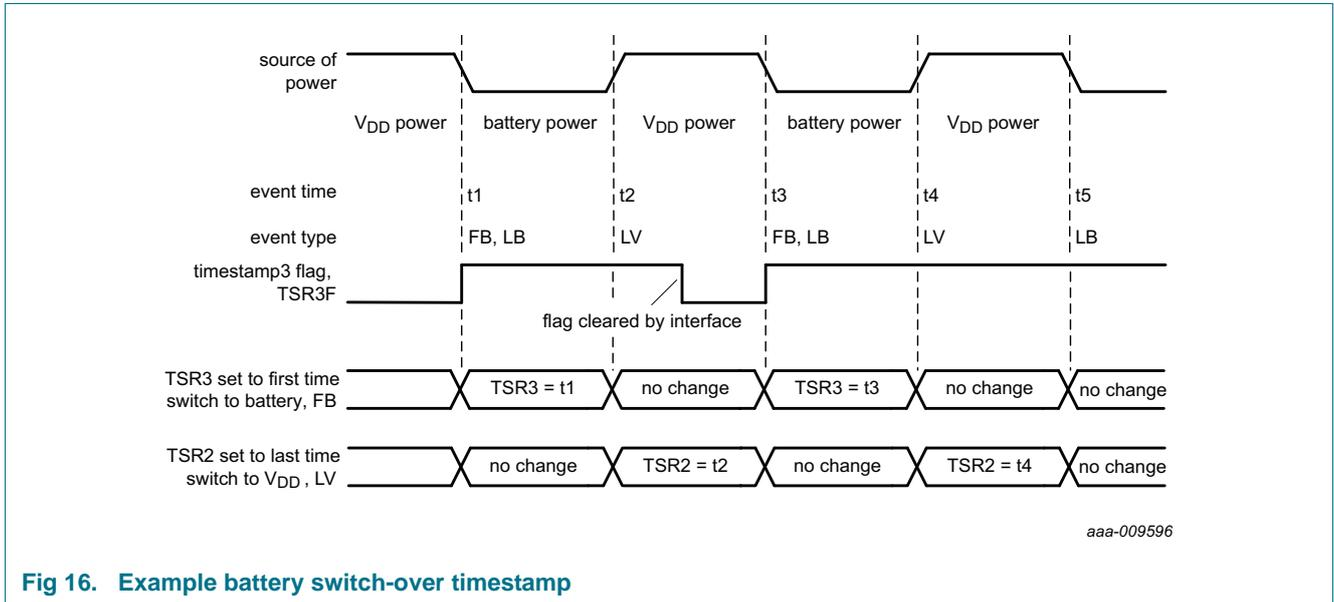
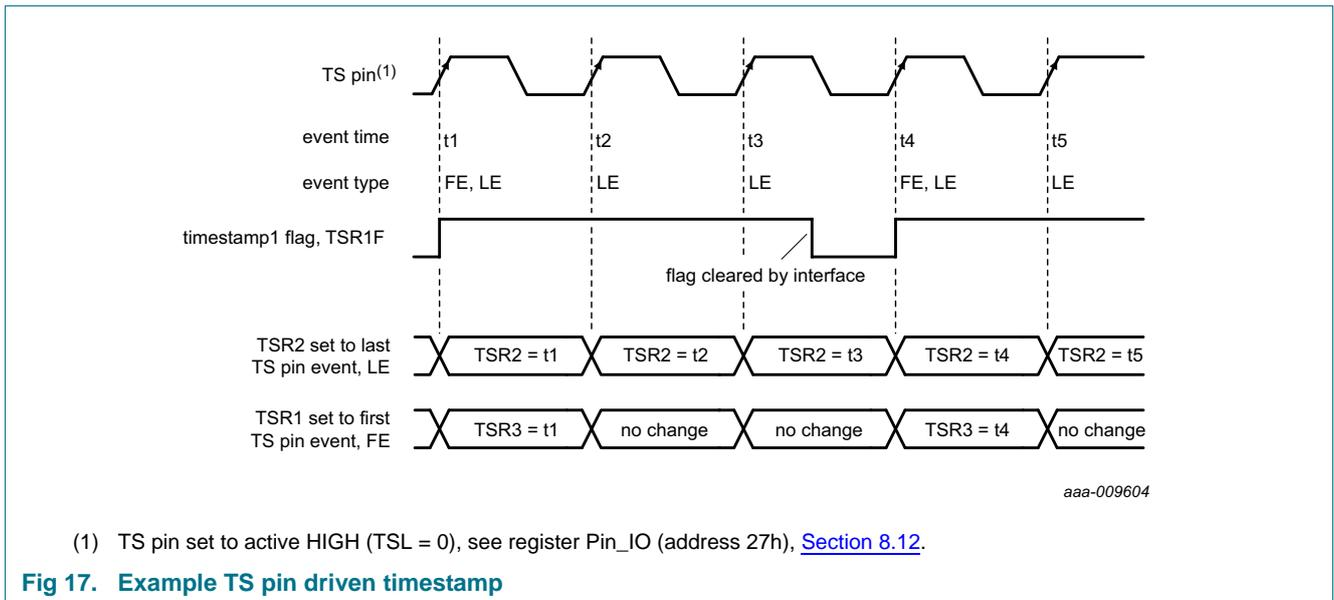

Fig 16. Example battery switch-over timestamp
Fig 17. Example TS pin driven timestamp
**First event** means that the time is only stored on the first event and not recorded for subsequent events. When the first event occurs, the associated timestamp flag is set. When the flag is cleared, then a new 'first' event is recorded. See Figure 16 and Figure 17.